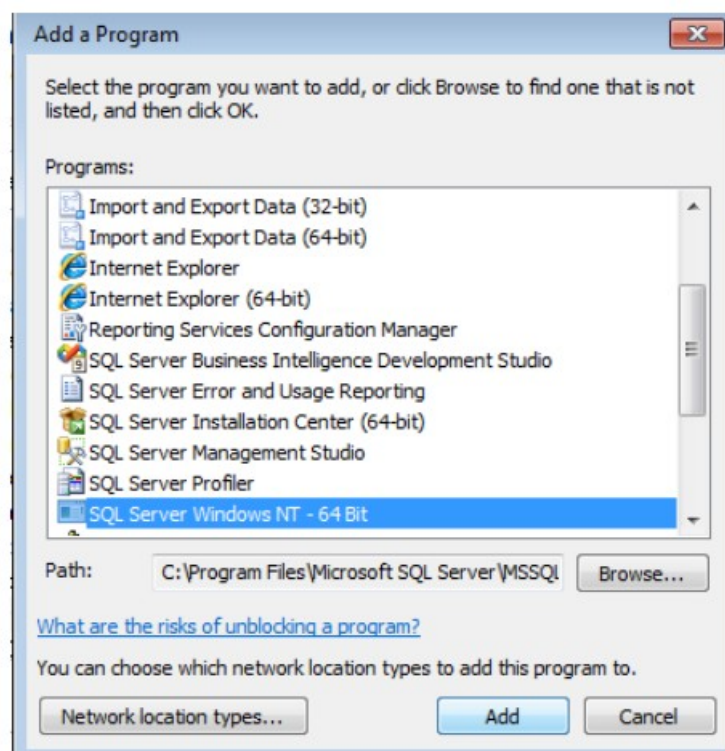

Fig.1.23 Add a Program
(11) Click “Add” button to add SQL Server Windows NT-64bit to “Allow Programs”(see Fig.1.23).